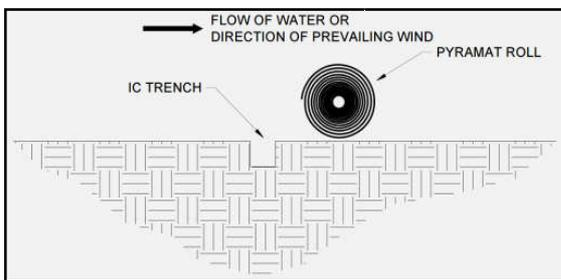
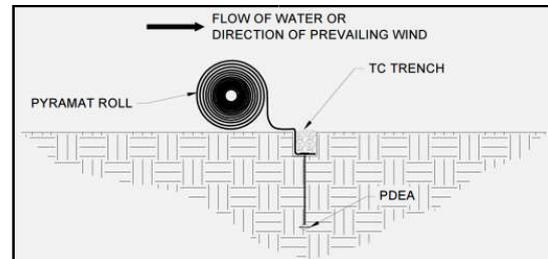
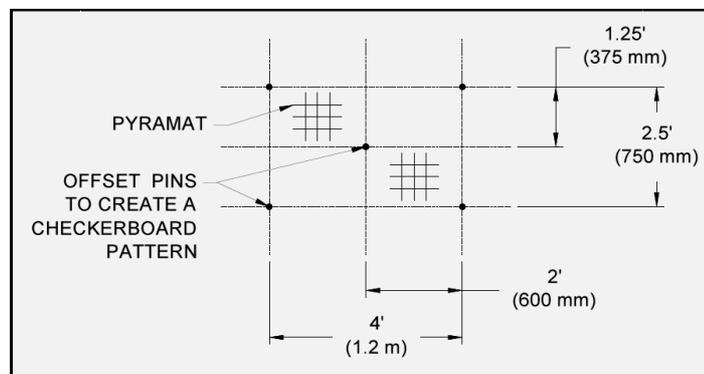
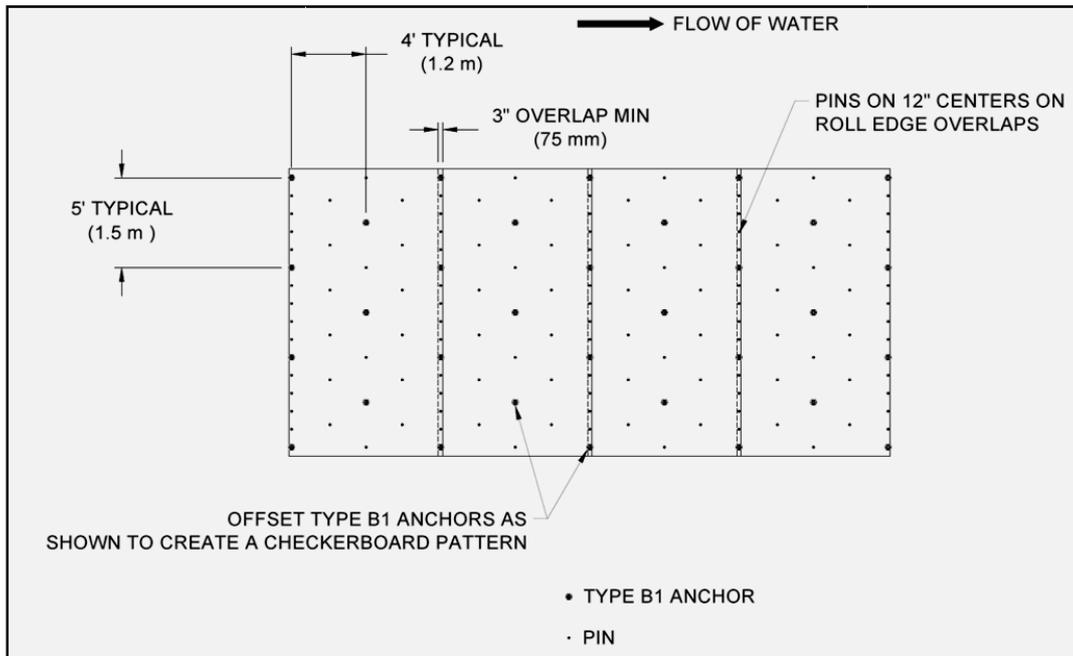

Figure 13: Initial Channel (IC) Trench Alignment
Figure 19: Terminal Channel (TC) Trench Placement
Figure 21: Example Pin Pattern
Figure 22: Example PDEA Pattern - 0.5 Anchors/ Yd2
2. Place the Pyramat panels by laying the Pyramat rolls on the downstream side of the IC trench so that the roll end points towards the IC trench (Figure 13), with a 3 inch (75 mm) overlap created at adjacent panel edge locations. Ensure that adjacent panel edges maintain a minimum 3 inch (75 mm) overlap during *Pyramat Laydown*. (Figure 22)
7. For channel lengths greater than the length of the Pyramat rolls available, place additional Pyramat panels by laying the Pyramat rolls on the upstream side of the TC trench so that the roll end points towards the TC trench (Figure 19), with a 3 inch (75 mm) overlap created at adjacent panel edge locations. Ensure that adjacent panel edges maintain a minimum 3 in (75 mm) overlap during *Pyramat Laydown*. (Figure 22)
10. Backfill and compact the TC trench in the location of the first Pyramat panel only (Figure 19).
13. Secure Pyramat panels in place using pins and PDEAs across the channel surface according to the project's engineered design. Pin and PDEA placement should reflect a staggered checkerboard pattern across the channel surface for best results (Figure 21 and Figure 22).
- a. Roll edges shall be overlapped a minimum of 3 in (75 mm) with pins placed on 12 in (300 mm) centers in between PDEAs on 5 ft (1.5 m) centers (Figure 22).